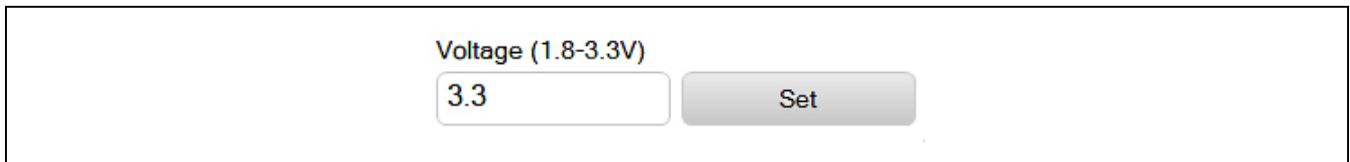

Figure 9. Supply Voltage Example
- b. Confirm the firmware status bar has changed from “ISM Radios x.x.x” to “ISM Radios 3.7.2” or similar, the software LED is lit green, and the port status is noted as “Connected” (see Figure 9).